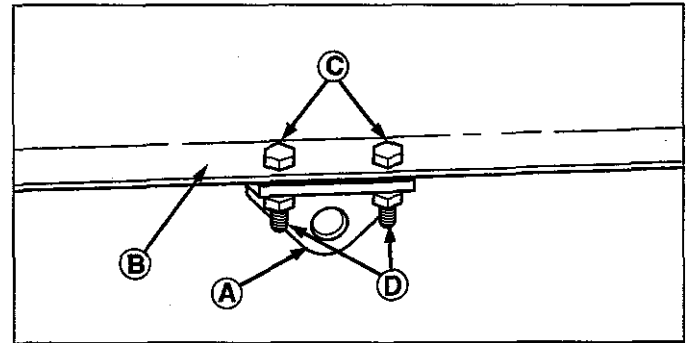

Figure 3. Front Hitch Mounting Brackets
2. Attach the front hitch mounting brackets (A, Figure 3) to the bracket mounting holes in both sides of the frame using 5/16-18 x 1-1/4 cap screws (C), lock washers, and nuts (D).